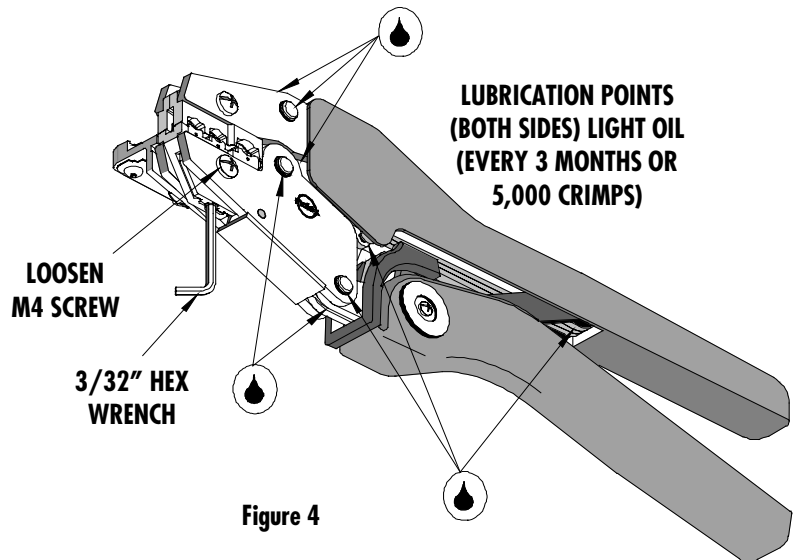

Figure 4
- If the insulation part of the crimp needs to be adjusted, first loosen the M4 screw on the bottom tool jaw, then insert a 3/32 hex wrench (supplied) into the bottom of the lower die (See Figure 4). A clockwise (CW) rotation decreases insulation crimp while a counter-clockwise (CCW) rotation increases insulation crimp. After adjusting retighten the M4 screw.
- Make certain all pins; pivot points and bearing surfaces are protected with a thin coat of high quality machine oil. Do not oil excessively. The 64001-0200 (RHT-1991) was engineered for durability, but like any fine piece of equipment it needs cleaning and lubrication for a maximum service life of trouble-free crimping. A light oil, such as 30 weight automotive oil used at the oil points shown in Figure 4, every 5,000 crimps or 3 months will significantly enhance the tool life and ensure a stable calibration.